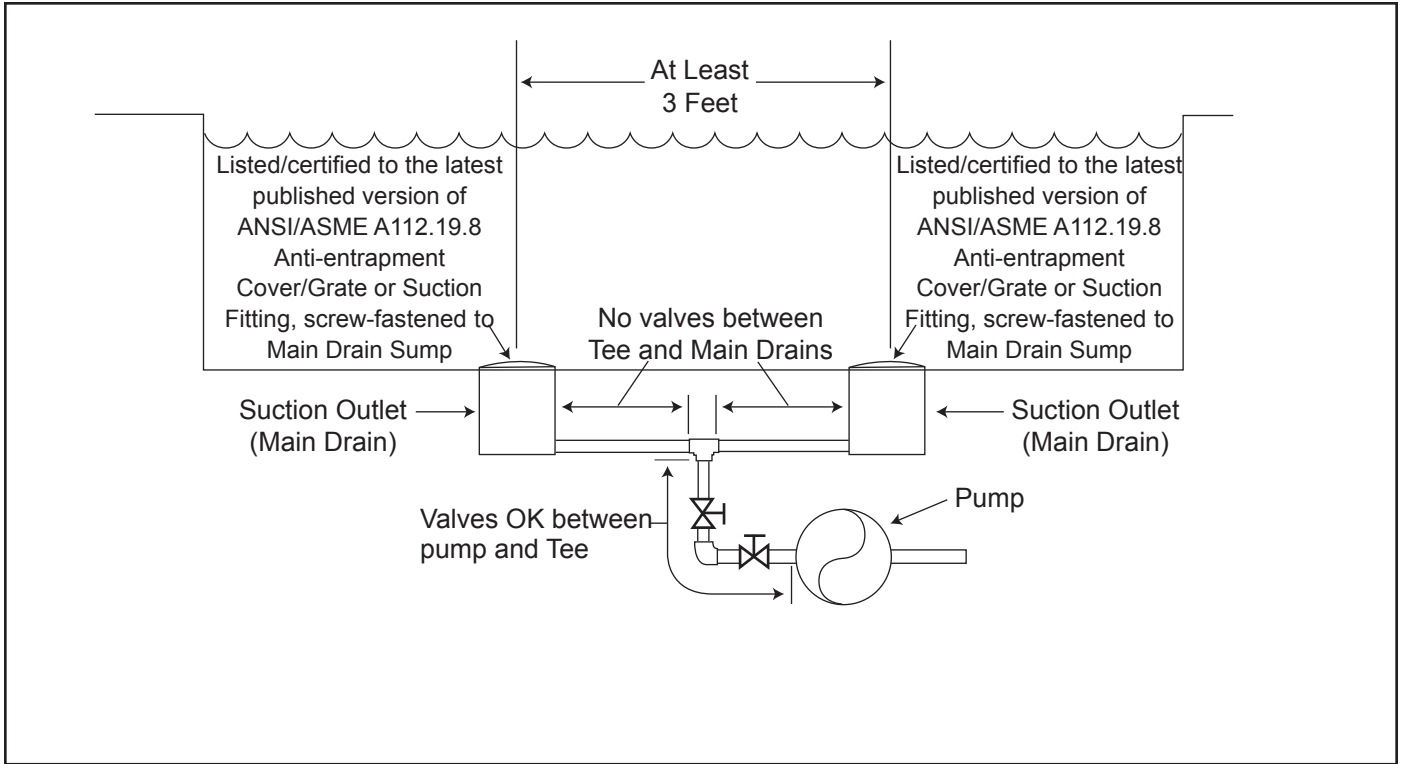

Figure 1. Number of Suction Outlets Per Pump
**Number of Suction Outlets Per Pump** - Provide at least two (2) hydraulically balanced main drains, with covers, as suction outlets for each circulating pump suction line. The centers of the main drains (suction outlets) on any one (1) suction line must be at least 3 feet apart, center to center. See Figure 1 on page 7.
The system **must** be built to include at least two (2) suction outlets (drains) connected to the pump whenever the pump is running. However, if two (2) main drains run into a single suction line, the single suction line may be equipped with a valve that will shut off both main drains from the pump. The system shall be constructed such that it shall not allow for separate or independent shutoff or isolation of each drain. See Figure 1 on page 7.